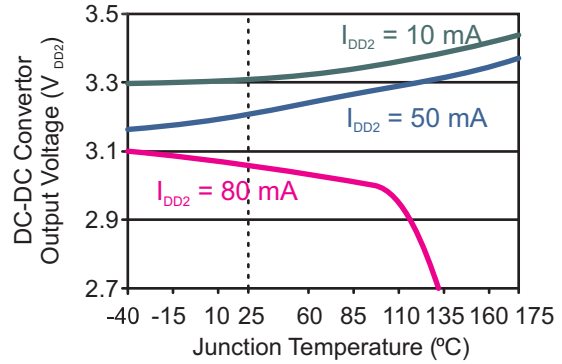

Figure 6. Typical DC-DC converter output versus temperature ($V_{DD1A} = 3.3$ V).
- Added thermal shutdown protection (p. 9) and graph (Figure 6).